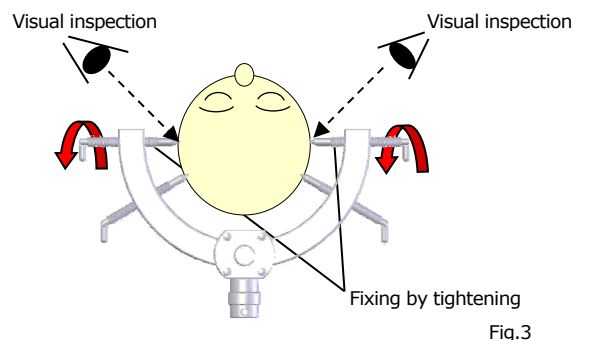

Fig.3
3. Finally turn the head pins 1/4 to 1/2 rotation which were provisionally fixed to tighten them further (Figure 3). Excessive tightening by the head pin may result in making cracks, depression, or penetration in the skull or laceration of the skin. Be sure to tighten the head pin with utmost care.